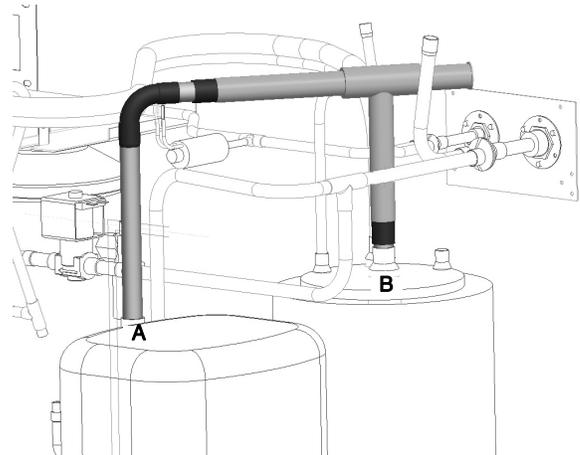

Figure 30.
31. Place the Compressor to Accumulator Suction Line in the unit (FIGURE 30).